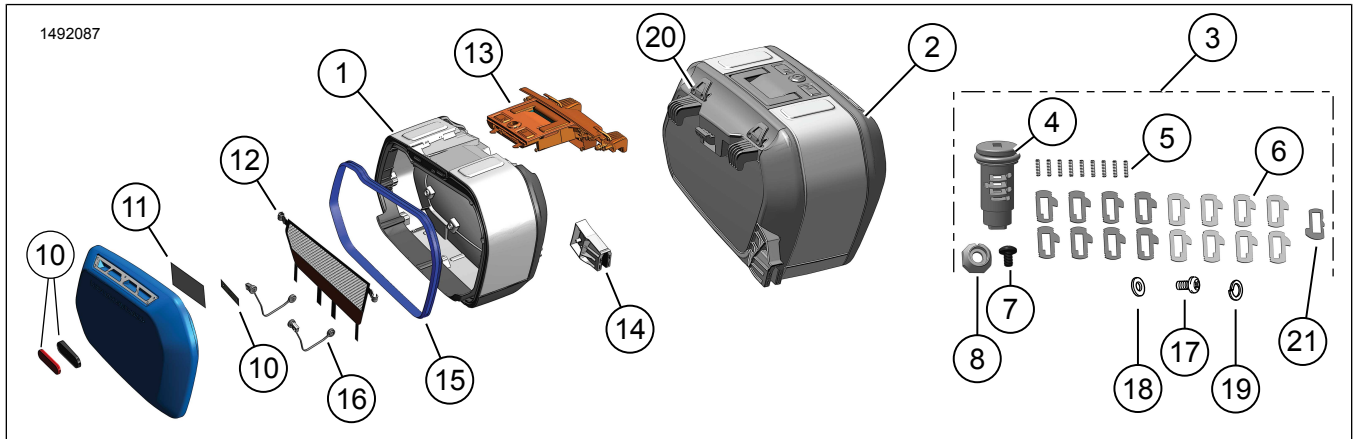
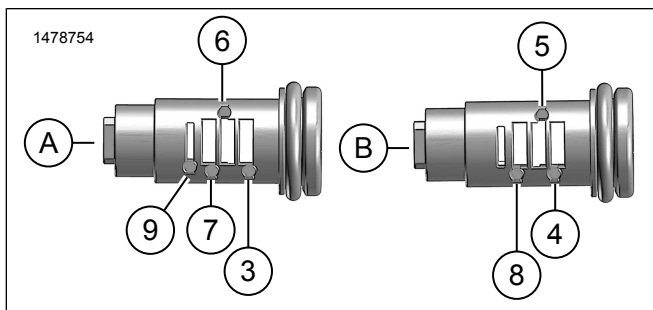

Figure 1. Kit Contents: Detachable Saddlebags
Figure 4. Spring and Tumbler Install Locations (Typical)
- Figure 4 Install tumbler springs (5), see Figure 1, into holes at stations 3,6 and 7 on side (A) of cylinder sub-assembly.
- Figure 4 Install tumblers (6), see Figure 1, #11-14 in stations 3,6 and 7 per tumble numbers determined in Table 3.
- Figure 4 Install tumbler springs (5), see Figure 1, into holes at stations 4,5 and 8 on side (B) of cylinder sub-assembly.
- Figure 4 Install tumblers (6), see Figure 1, #21-24 in stations 4,5 and 8 per tumble numbers determined in Table 3.